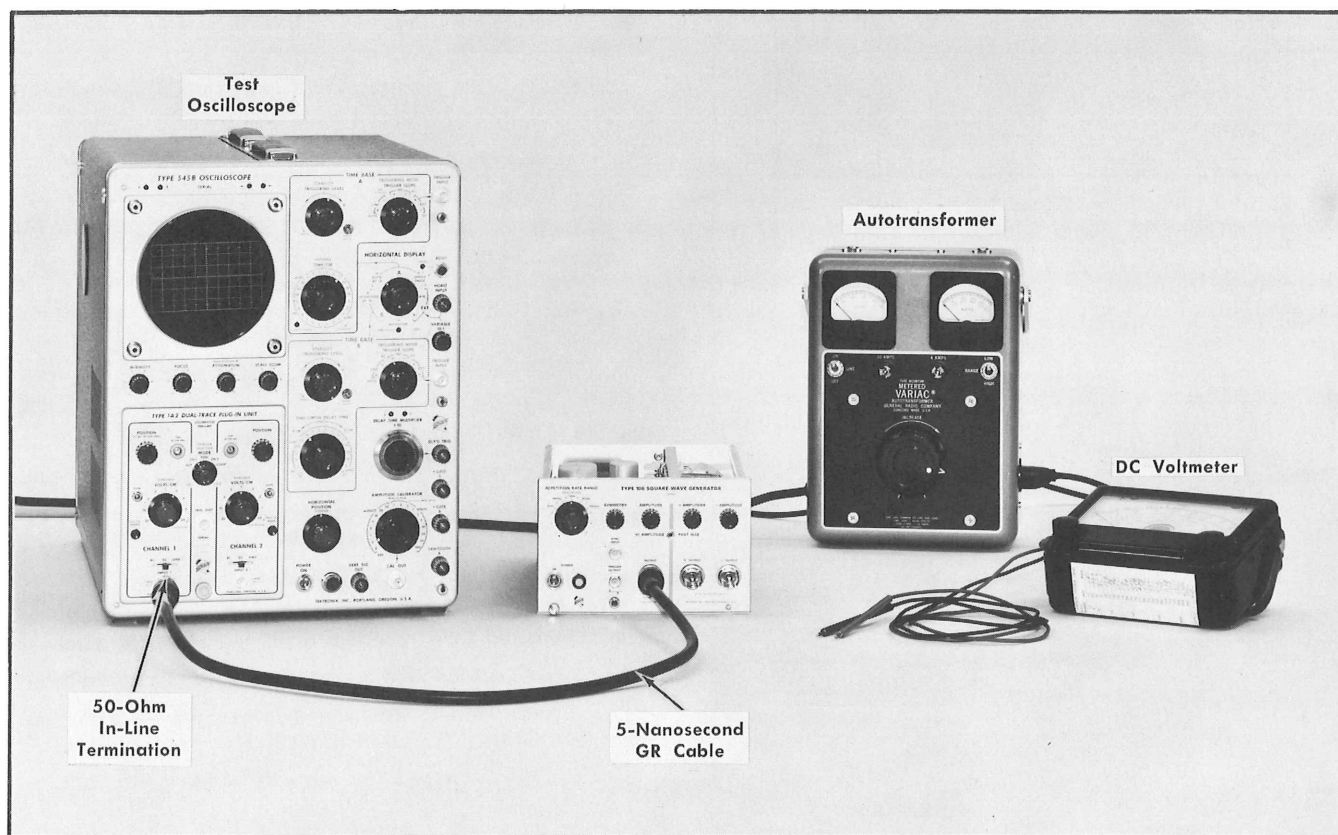

Fig. 6-3. Initial test equipment setup for steps 1 — 5.
- Test equipment setup is shown in Fig. 6-3.